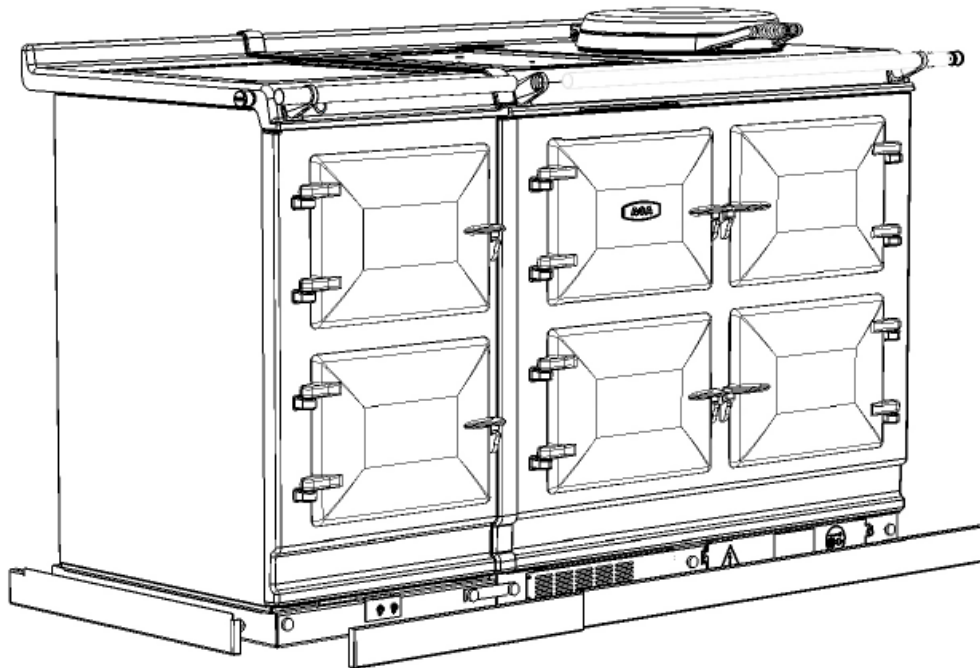

Fig. 5.12
11. On 5 oven appliances, fit the 'all-thread' stud into the threaded end of the handrail, then feed the handrail through the bracket (ensuring that the all-thread stud is protruding from the right-hand side of the hot cupboard handrail) and screw the handrails together. (Fig. 5.12).
14. Finally, fit the plinth fascia to the magnets on the front of the plinth, making sure that on 5 oven appliances, the right-hand side of the module plinth fascia sits against the left-hand side of the AGA eR7i plinth fascia leaving no gap between. Make sure that the plinth facias are centrally located and do not overhang either appliance. (Fig. 5.12)